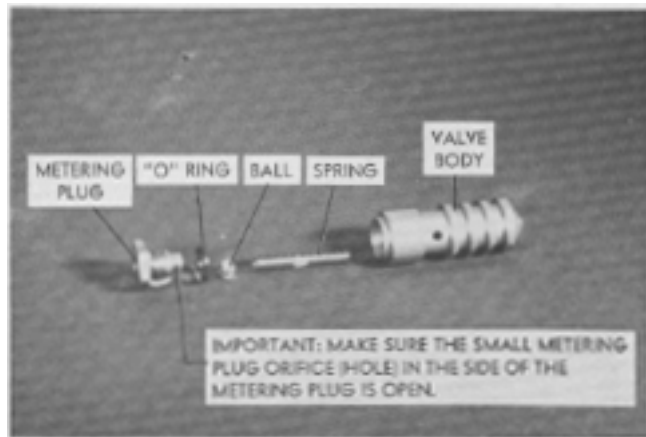

FIG. 70.
- Make sure the small metering plug orifice in side of the metering plug is open. (Fig. 70).